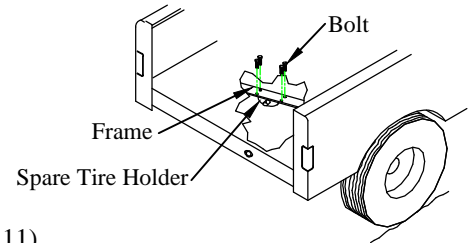

Figure 9: Spare tire holder detail.
4. **Unbolt** the spare tire holder from the frame (Figure 9).